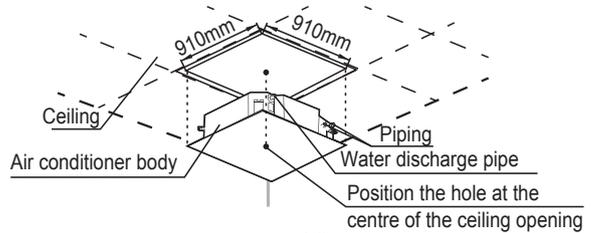

Figure 4.9
1. Drill 910x910mm square holes into the ceiling based on the layout of the installation board (accessory 4). See Figure 4.9.